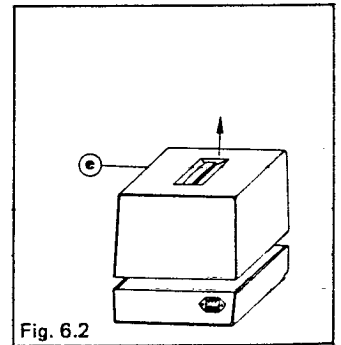

Fig. 6.2
- Place the apparatus in the normal position and remove the upper part of the cabinet ② (Fig. 6.2).